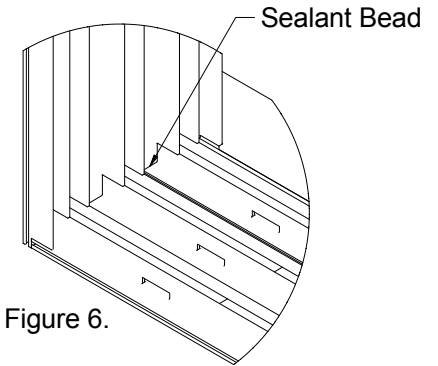

Figure 6.
Step 9. (Frame Corner Sealant) Once all installation screws have been properly installed, apply a bead of sealant and tool at the frame sill to frame jamb joint (See Figure 6).